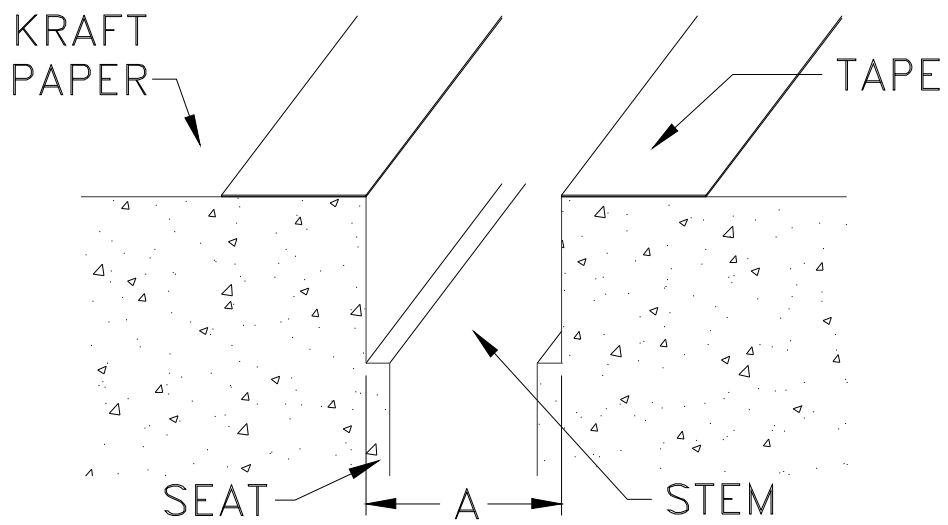

Figure 3
STEP 3. Apply tape to the top surfaces of the concrete adjacent to the expansion joint gap (see Figure 3). Balco, Inc. also recommends that Kraft paper be used in conjunction with the tape to protect the concrete surfaces from Lube Adhesive splatter, spills, tracking, etc.